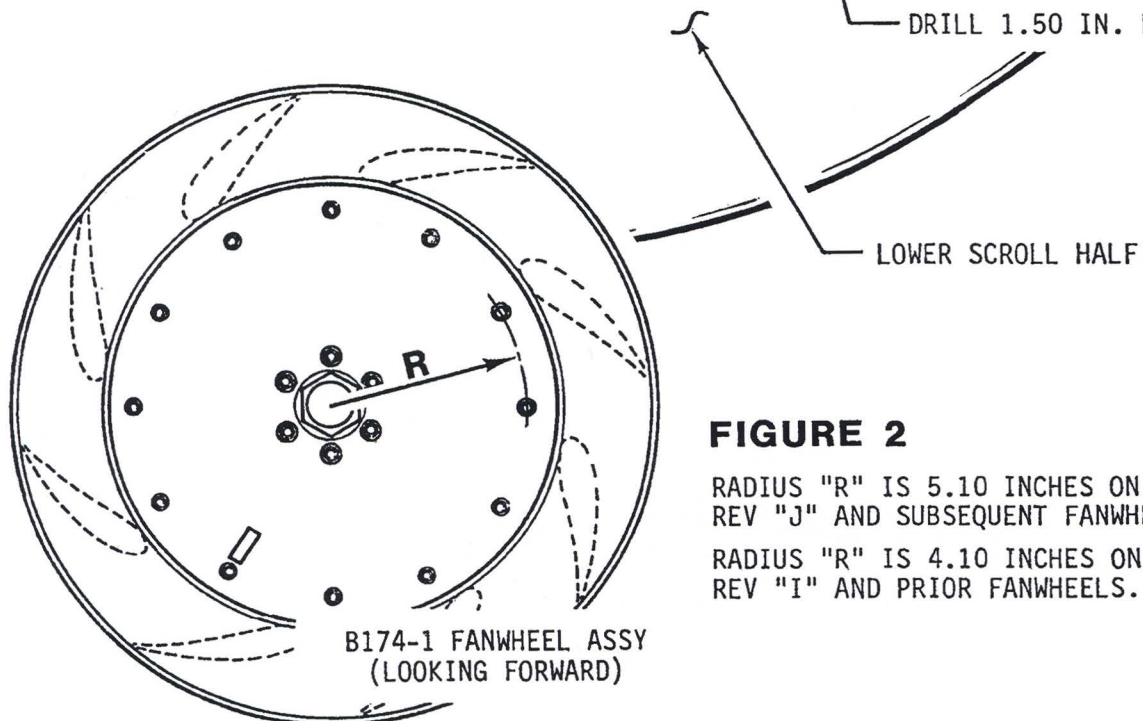

FIGURE 2
3. Refer to Figure 2. Determine if B174-1 fanwheel is Revision J & subsequent or Revision I & prior.